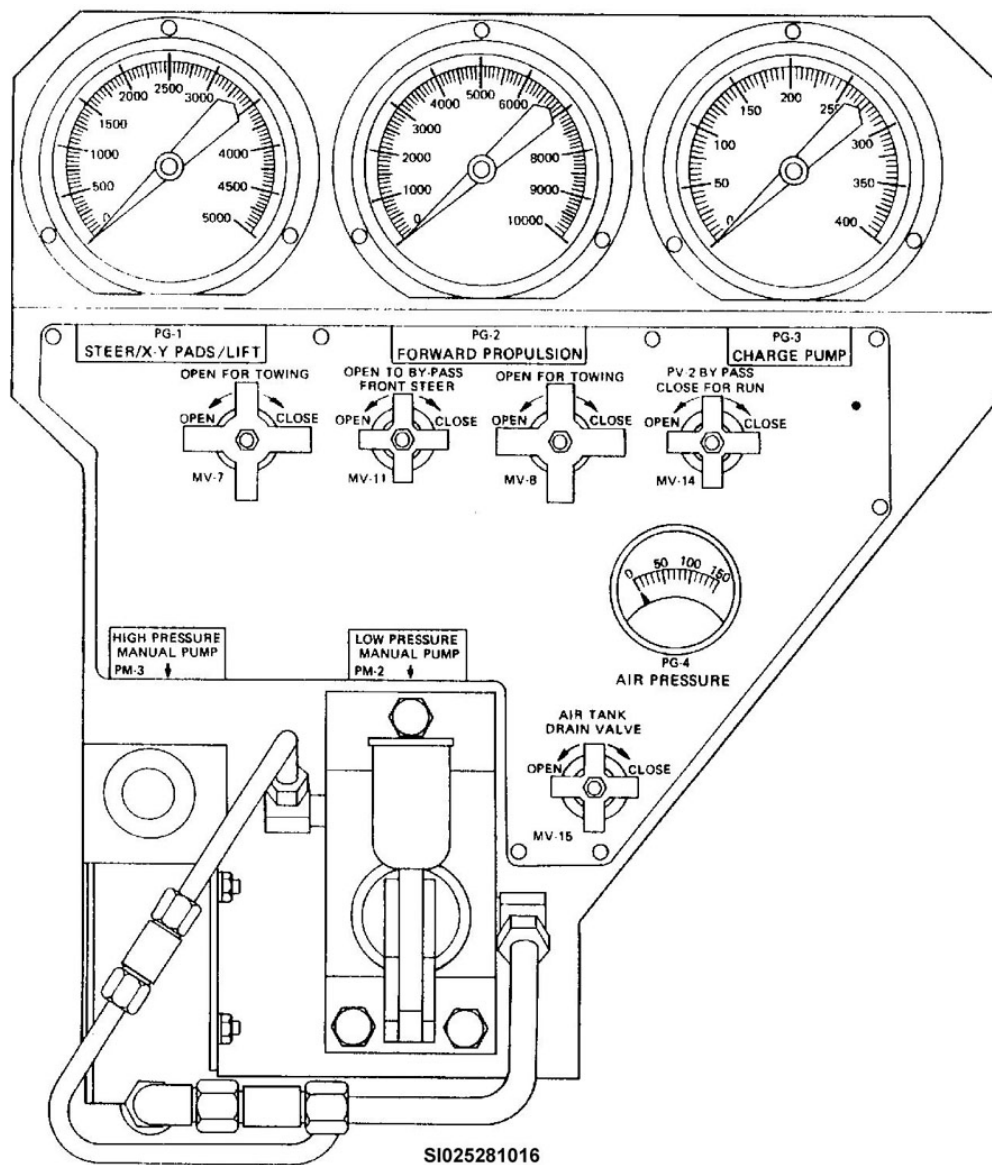

Figure 2-13. Hydraulic control panel.
The hydraulic control panel contains the gauges, manual valves (MV), and manual pumps for monitoring and controlling the hydraulic system (fig. 2-13). You use the manual pumps for emergency lift operations during power failure.